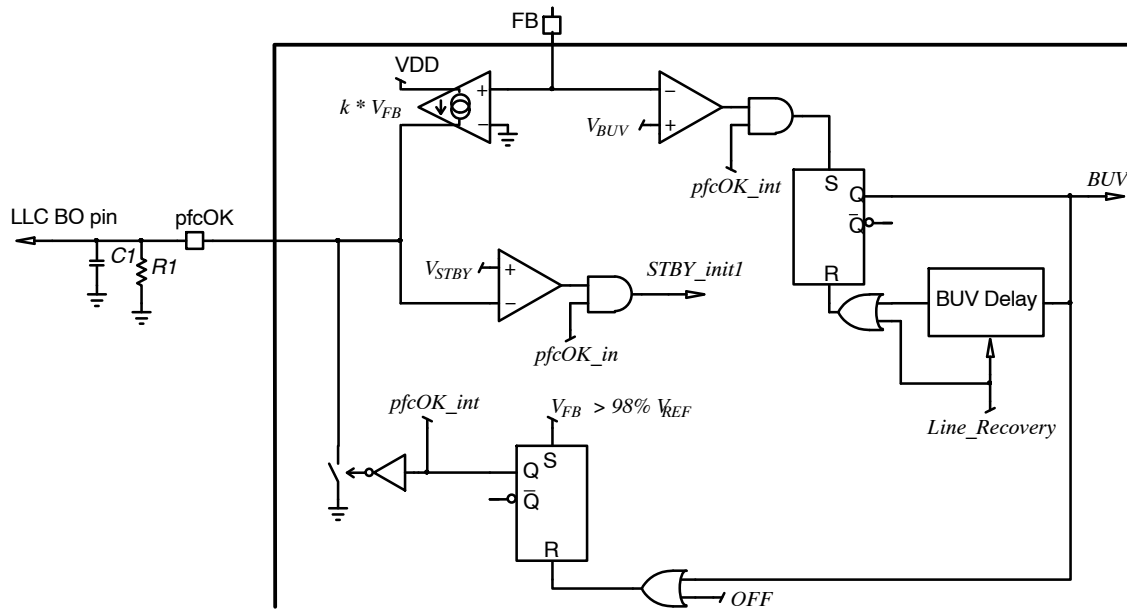

Figure 17. *pfcOK* Block
Practically, the *pfcOK* pin is grounded when the PFC stage enters operation and remains in low state until the output voltage has nearly reached its nominal level (practically when V_{FB} reaches 98% V_{REF}). At that moment, the *pfcOK* pin sources a current proportional to the feedback voltage ($k \cdot V_{FB}$). See Figure 17. Placing an external resistor between the *pfcOK* and GND pins, we obtain a voltage V_{pfcOK} which is proportional to the bulk voltage and can serve as a feedforward signal for the downstream converter. k typical value is 10 $\mu\text{A/V}$ so that the *pfcOK* pin typically sources 25 μA when the FB voltage is 2.5 V (regulation level).
The high voltage (HV) pin is a multi-functional pin, which in addition to the startup current source, provides access to the brownout, line sag and line range detectors. The brownout / line-sag detector detects too low line levels and the line range detector determines the presence of either 110 V or 220 V ac mains. Depending on the detected input voltage range, the NCP1618 internally adjusts device parameters to optimize the system performance. Line and neutral are diode “ORed” before connecting to the HV pin as shown in Figure 17. The diodes prevent the pin voltage from going below ground. Whatever the HV input
- Resets the BUV timer. It is because a long line-sag event is likely to cause a BUV detection. When a BUV fault is detected, no restart is possible until the BUV timer has elapsed. If a BUV fault is detected during a line-sag sequence, we want operation to be resumed as soon as the line recovers (see Figure 17).